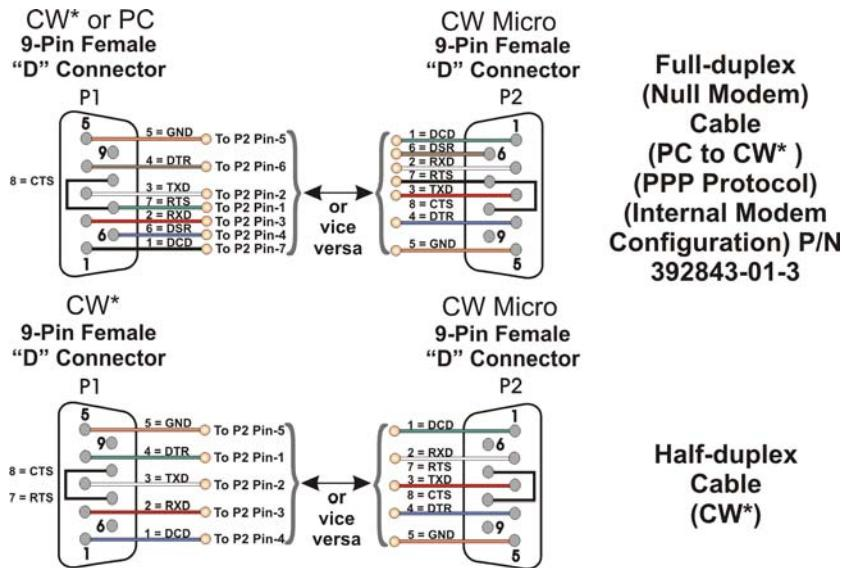
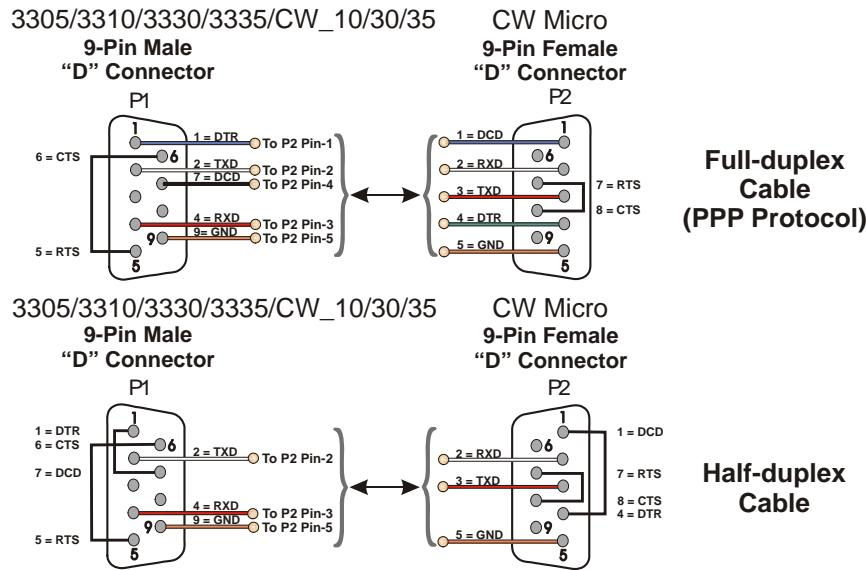

Figure 2-17. Full-duplex and Half-duplex Cable
Figure 2-18. Full-duplex and Half-duplex Cable
**RS-232 COM Port Cables** For the ControlWave Micro, half-duplex communications use Modbus or BSAP protocol, while full-duplex communications use point-to-point protocol (PPP). RS-232 ports use a “null modem” cable (see *Figure 2-17*) to connect with other devices (such as a PC, a printer, another ControlWave [except the CW\_10/30/35]) when the ControlWave Micro uses the full-duplex PPP protocol.
Use the “null modem” cable for full-duplex (PPP protocol) communications when connecting a ControlWave Micro to a PC. (See top part of *Figure 2-17*.)
Use the half-duplex cable (shown in the bottom part of *Figure 2-17*) when connecting the ControlWave Micro to another ControlWave series unit (again, with the exception of the CW\_10/30/35).
When communicating with a Network 3000 series RTU 3305, RTU 3310, DPC 3330, or DPC 3335 or CW\_10/30/35, you must use one of the cables shown in *Figure 2-18*.
When interfacing to the COM3 port of a ControlWave, or the COM5 or COM6 port a ControlWaveEXP unit, use the cable presented in *Figure 2-19* along with the cable shown in *Figure 2-17* or *Figure 2-18*.